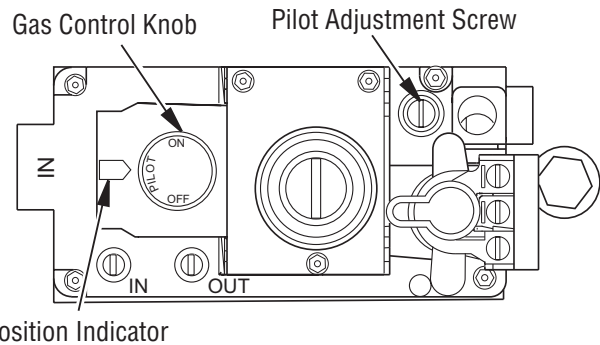

Figure 36 - Control Knob in the PILOT position
7. Turn gas control knob clockwise ↷ to the OFF position (see **Figure 36**).
8. Wait five (5) minutes to clear out any gas. Then smell for gas, including near the floor. If you smell gas, STOP! Follow "B" in the safety information, column 1. If you don't smell gas, go to the next step.
- Turn adjustment screw marked pilot clockwise to decrease or counterclockwise to increase the flame to proper size (see Figure 36, Page 18). Do not remove adjustment screw.